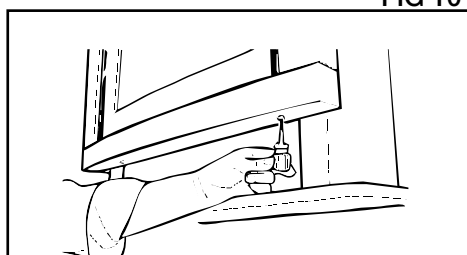

FIG 13
3. To remove the front heater surround undo two screws (one either side) from the bottom flange of the front panel as indicated in **FIG 13**.